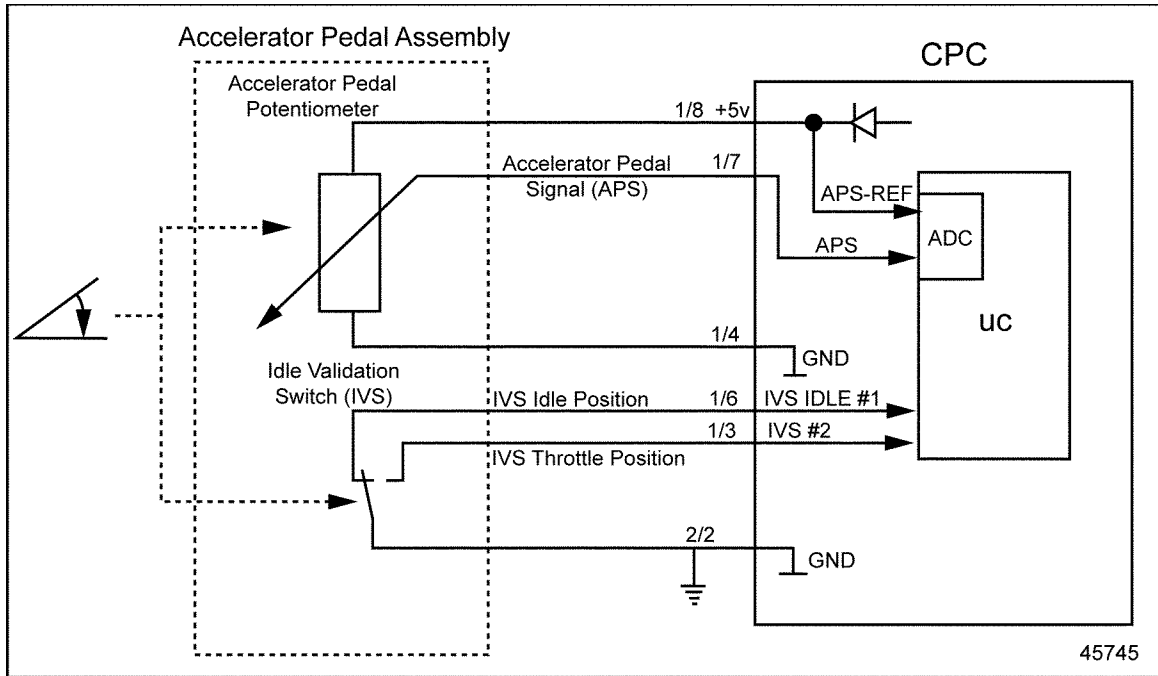

Figure 44-1 Idle Validation Switch, Part of the Accelerator Pedal Assembly
1. Disconnect the Idle Validation Switch. See Figure 44-1.